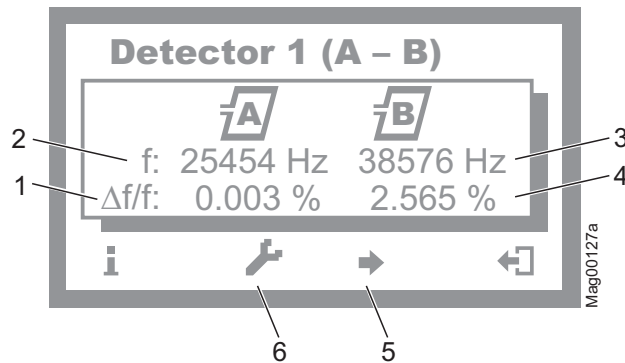

Fig. 22: Example "View – Menu Detector 1 (A-B)"
3. Press the left control button repeatedly, until the menu "Detector 1 (A-B)" is displayed. → See page 67, Fig. 22.